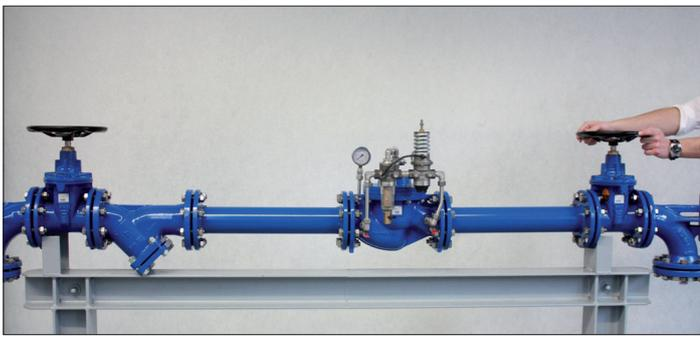

Figure 21: Complete opening of the upstream pressure valve and complete opening of the downstream-pressure valve
9. Completely open the upstream pressure shut-off valve. Then completely open the downstream-pressure shut-off valve (see Figure 21). We recommend the slow filling of the low-pressure network to ensure venting of the network and to prevent water hammer. The pressure-sustaining valve should now be closed.